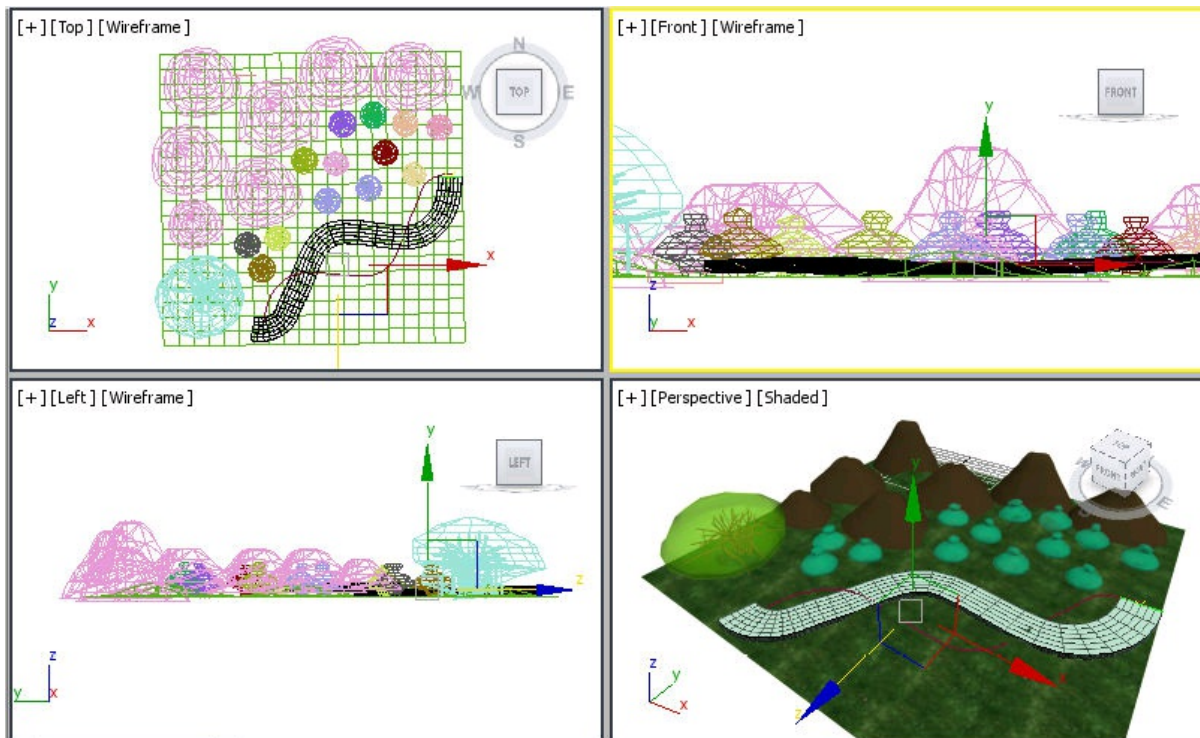

Figure 11-102 The road geometry aligned with ground
5. Align *road* in the viewports, as shown in Figure 11-102.